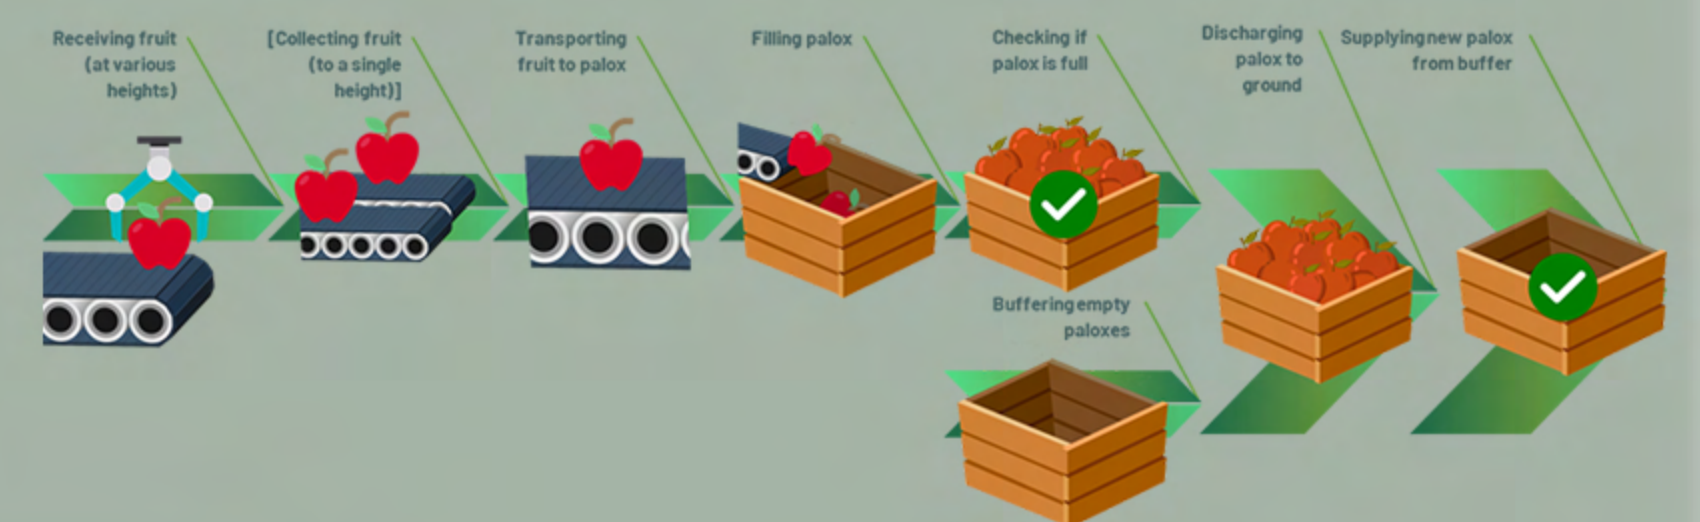

Figure 3: Function scheme of sequential machine operations
Figure 3 illustrates the sequential operations and processes of the machine.
- 2.) Function block diagram, see Figure 3 (Problems and Objectives), was made.